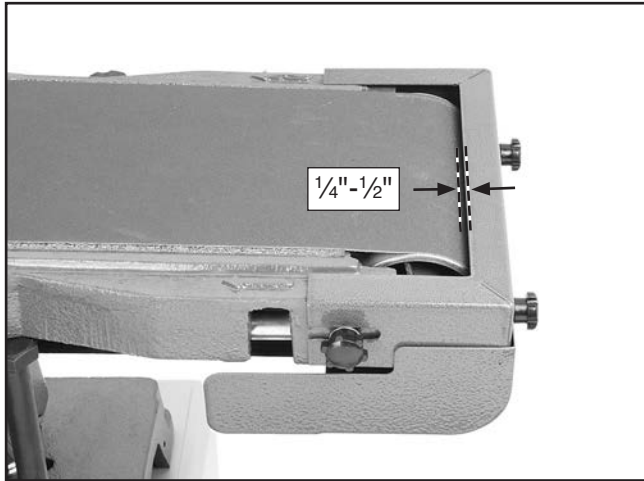

Figure 42. Correct distance between belt and idler roller guard.
39. Adjust the inside edge of the idler roller guard $\frac{1}{4}$ -" $\frac{1}{2}$ " away from the sanding belt (see **Figure 42**).